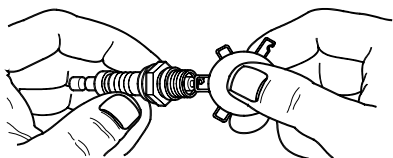

Figure 4-5. Spark Plug
4. Inspect electrode gap with wire feeler gauge and reset spark plug gap to 0.6 - 0.7mm (0.024 - 0.028 in). See Figure 4-5.